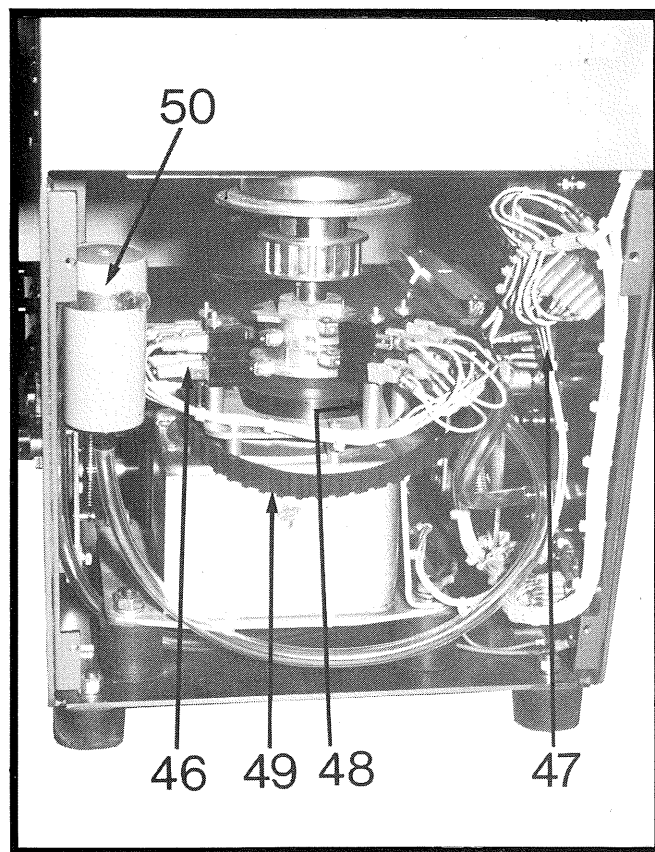

Fig 48
- E 90 A filter is housed in a spring clip (50, Fig 48) in the rear of the basic machine. This is accessible by removing the rear cover of the machine.